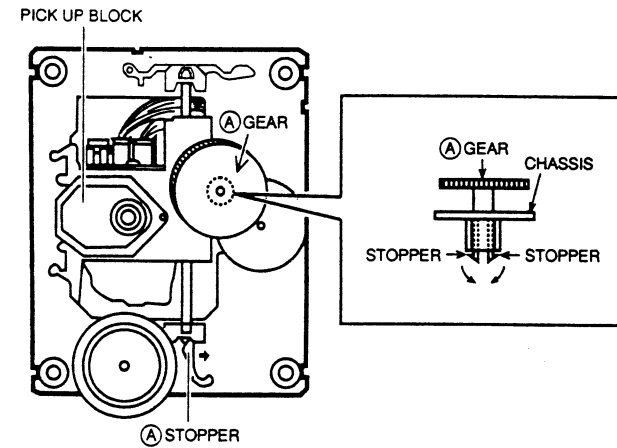

Fig. 3-4
- 1) Release the stoppers of (A) gear as shown in Fig. 3-4, then remove it.
- 2) Push the (A) stopper in the right direction and pull the SLIDE SHAFT in the forward direction to remove the PICK UP BLOCK, then replace the PICK UP BLOCK.